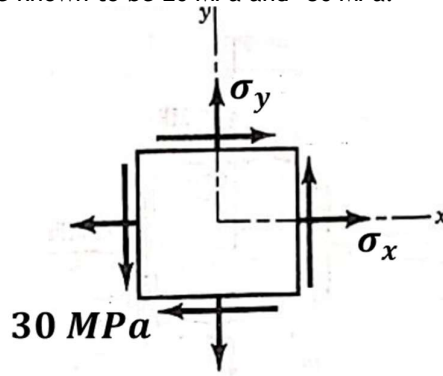

Fig. Q.1(a)
- Q.1(a) For the element shown in Fig. Q.1(a), determine the values of σ_x and σ_y if the principal stresses are known to be 20 MPa and -80 MPa. [5] CO BL